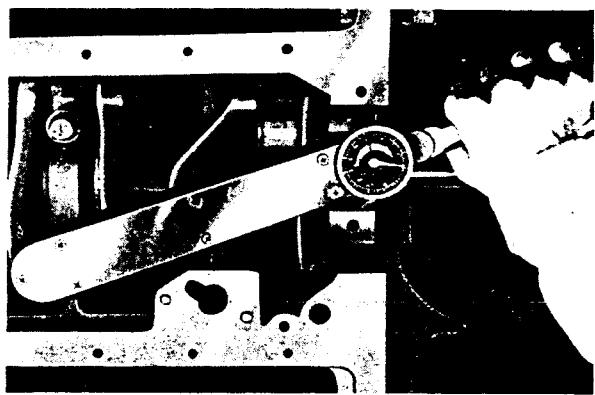

FIG. 46
- Tighten all main bearing cap screws to a torque wrench reading of 90—100 ft. lbs. (12.4—13.8 kg. metres) as shown in Fig. 46.